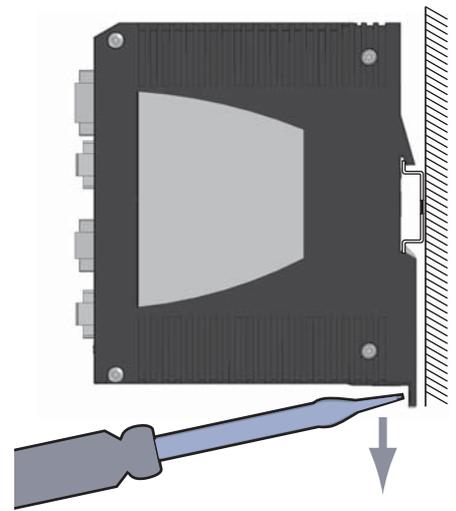

Fig. 3: Removing the RSR20/RSR30 device from the rail (wall mounting plate)
- insert a screwdriver horizontally under the housing into the locking slide, pull it (without tipping the screwdriver) downwards and lift the device upwards (see Fig.3).